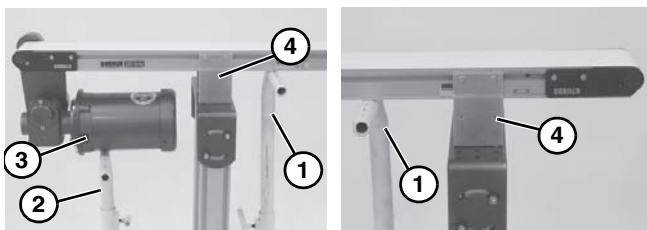
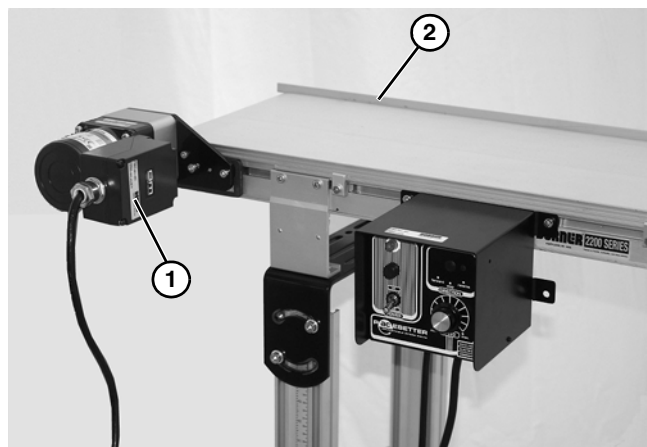

Figure 26
Figure 27
1. Place temporary support stands (**Figure 26, item 1**) at both ends of the conveyor. Place an additional support stand (**Figure 26, item 2**) under the drive motor (**Figure 26, item 3**), if equipped. See WARNING.
2. Remove mounting brackets (**Figure 26, item 4**) from one side of conveyor. (Reverse steps in “Support Stand Mounting Brackets” on page 8 or “Surface Mount Brackets” on page 9.) If equipped with heavy load drive package, remove brackets from side opposite drive (**Figure 27, item 1**).
3. If equipped, remove return rollers, guiding (**Figure 27, item 2**) and accessories from side opposite drive (**Figure 27, item 1**).
1. Ensure temporary support stands (Figure 26, item 1) are placed at both ends of the conveyor. Place an additional support stand under the drive motor (Figure 26, item 3), if equipped. See WARNING.